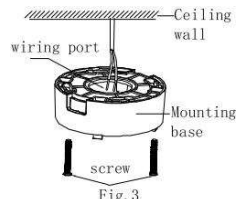

Fig. 3
(3) Pass the pre-embedded wires through the wire port and use screws to fix the mounting base to the ceiling wall. As shown in Fig. 3.